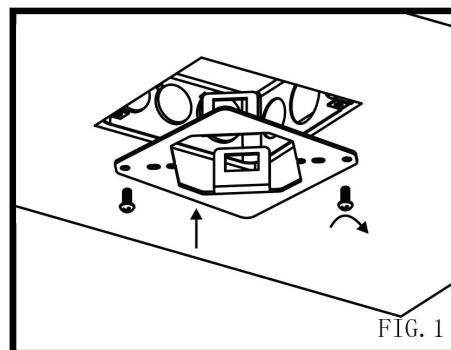

FIG. 1
1. Push the black wire from the fixture into the + wire terminal of the female connector and the white wire from the fixture into the - terminal of the female connector. (fig 1)
2. Push the black wire from the socket adapter into the + wire terminal of the male connector and the white wire from the socket adapter into the - terminal of the male connector. (fig 1)
1. Align holes in junction box with corresponding holes on junction box mounting plate. Using screws provided, attach junction box mounting plate to the junction box so that it is flush with the ceiling. Do not overtighten screws. (fig 1 & 2)